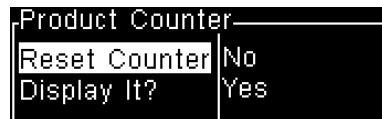

Figure 6-6: Product Counter Dialog Box
- 4 Press Enter to open the Product Counter dialog box (Figure 6-6).